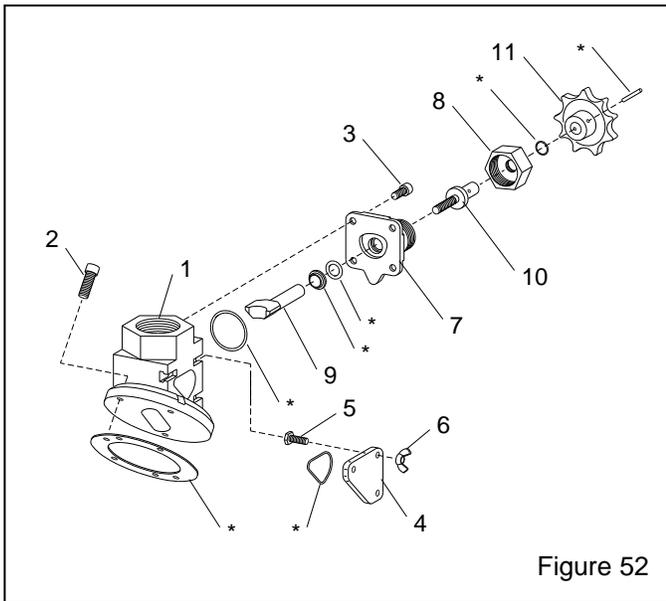

Figure 52
9.5 Auto-Quantum Metering Segment – Figure 52